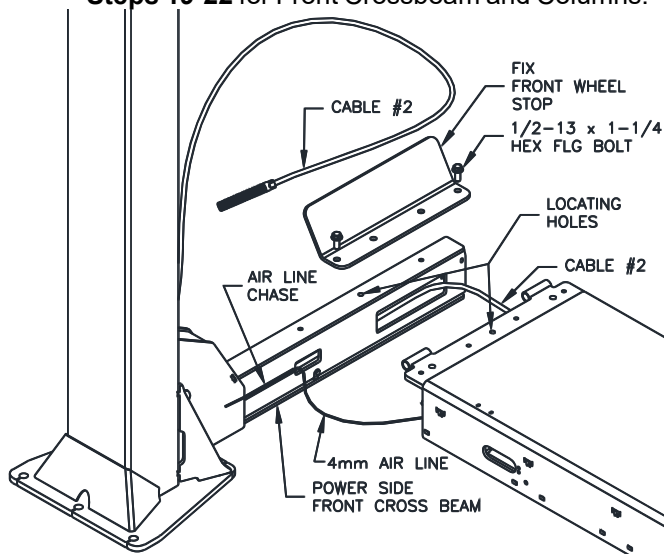
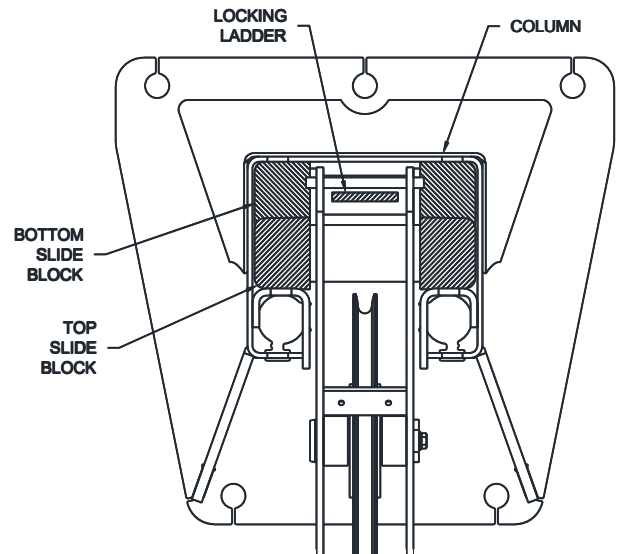

Fig 17 – Front CrossBeam Installation
Fig 19 – Locking Ladder Orientation
NOTE: The locating holes are not threaded. See **Fig 17**.
- 16) Attach the rear crossbeam to the runways (**Fig. 5**) with 1/2 x 1-1/4" lg. flange head bolts. (Leave the air lines hanging out the bottom of the runway at this time. They will be fed in through the runway after the lift is raised.) **The outermost runway holes should be in line with the outermost holes in the top of the crossbeam, see Fig. 17.** Do not torque bolts yet.
- 37) Attach the rear crossbeam to the runways (**Fig. 5**) with 1/2 x 1-1/4" lg. flange head bolts. (Do not torque bolts yet. For Flat decks, install the wheel stops before tightening runway bolts in **Step 12**. See **Fig 17**. Alignment Wheel Stop will be installed in a later step.
- 43) Ensure that the power side front crossbeam is touching the power column base plate and stand the column up. Insert the Lock Ladder into the slot, **Fig 19**, and reinstall the Column Top Plate and pins. Move the column into position and remove the crossbeam sheave. Reach in through the small access hole in the crossbeam tube, **Fig 17**, and pull out the 6 ft. roll of 4mm dia. plastic air line connected to the air cylinder at the end of the crossbeam.
- 44) Remove the crossbeam sheave guard, sheave, Pin etc. Feed **Cable #2** into the crossbeam's large access hole and back out the top, **Fig 17**. Insert the air line into the first Ring in the runway end. See **Fig 6 and 7** for ring location.